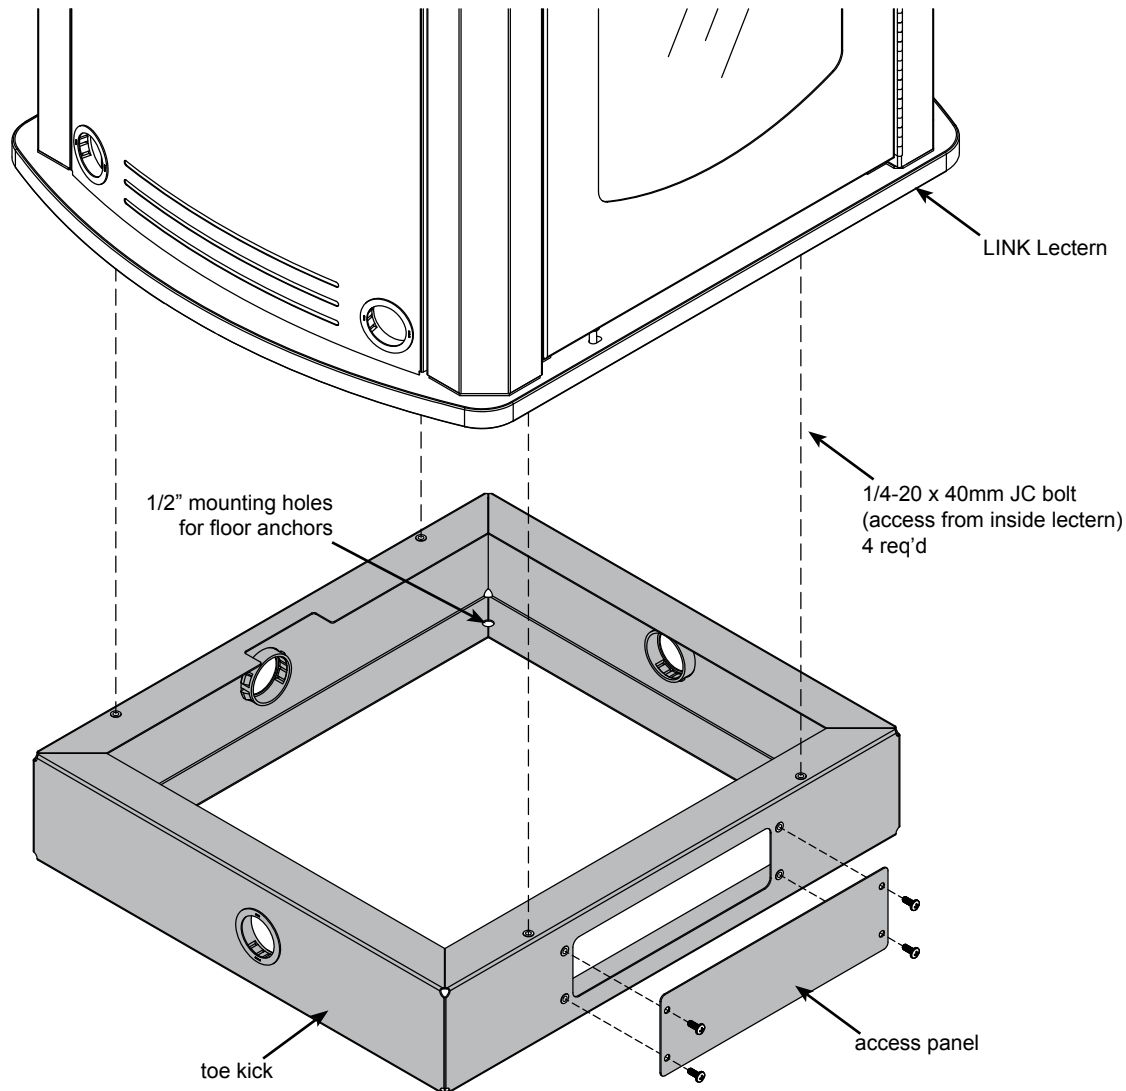

Figure 4
1. If your LINK is equipped with a toe kick, and you wish to attach it to the floor, the toe kick will need to be detached from the lectern. To detach, remove the (4) 1/4-20 x 40mm JC bolts (one on each corner from inside the lectern) with a 4mm hex wrench.
2. Carefully lift the lectern off the toe kick. This will require several people. **Figure 4.**
3. Locate the toe-kick into its final position on the floor and mark the (4) mounting hole locations on the floor (The toe kick mounting holes are 1/2" dia.)
5. Carefully lift the lectern back onto the anchored toe kick and align the (4) mounting holes.
6. Re-attach the lectern to the toe kick with the (4) previously removed JC bolts.